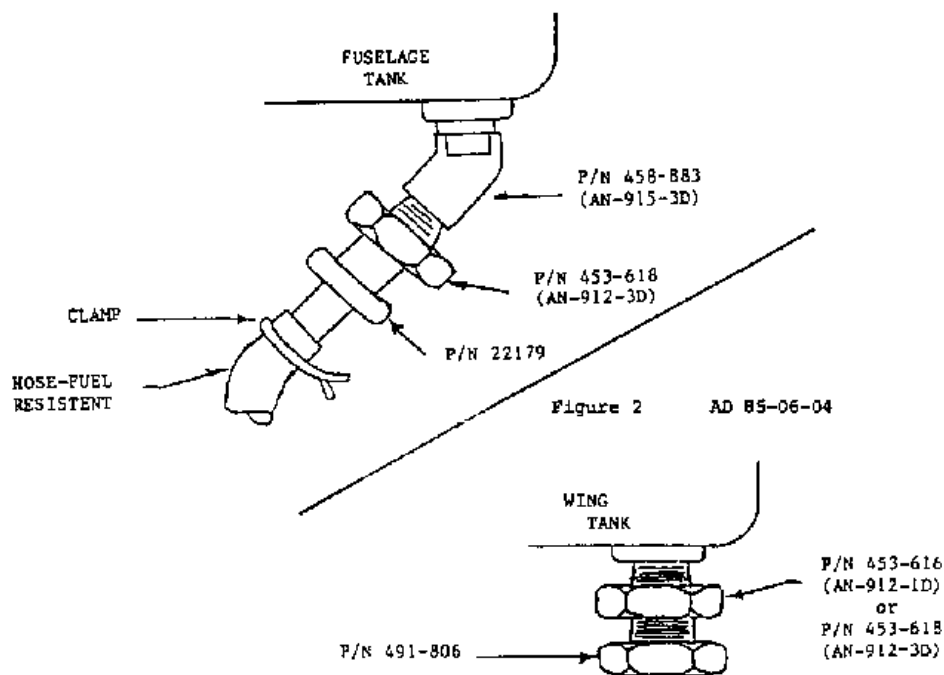

Figure 1
(1) Drain fuel tank.
(2) Remove fuel tank drain plug, Piper Part Number 70151, from the lower aft portion of the fuel tank.
(3) Install elbow, Piper Part Number 458-883, (AN915-3D) reducer/adaptor, Piper Part Number 453-618, (AN912-3D) and drain valve, Piper Part Number 22179-00 or FAA approved equivalents per Figure 1 of this AD.
(4) Install clear plastic tube 1/4 inch I.D. x 3/8 inch O.D. (Available from Piper Aircraft Corporation as P/N 189543 in one foot length increments.) The tubing shall be long enough to extend from the drain valve to a minimum of 1 inch below the lower fuselage skin.
(5) Add appropriate clamp to the tube at the drain valve and secure plastic tube to the existing fuel feed line and/or adjacent airplane structure.
(6) Route the tube clear of the rudder pedals or pilots feet and drill a 5/8 inch hole in the fuselage bottom skin near the centerline if the engine has two exhaust tailpipes or on the side opposite the engine exhaust tailpipe if it has only one.
(7) Install 3/8 inch I.D. grommet (AN931-6-10 or equivalent) in the lower fuselage skin where the clear plastic drain tube exits the fuselage.
(8) Add fuel, check for leaks and assure that the fuel drains clear of the airplane.